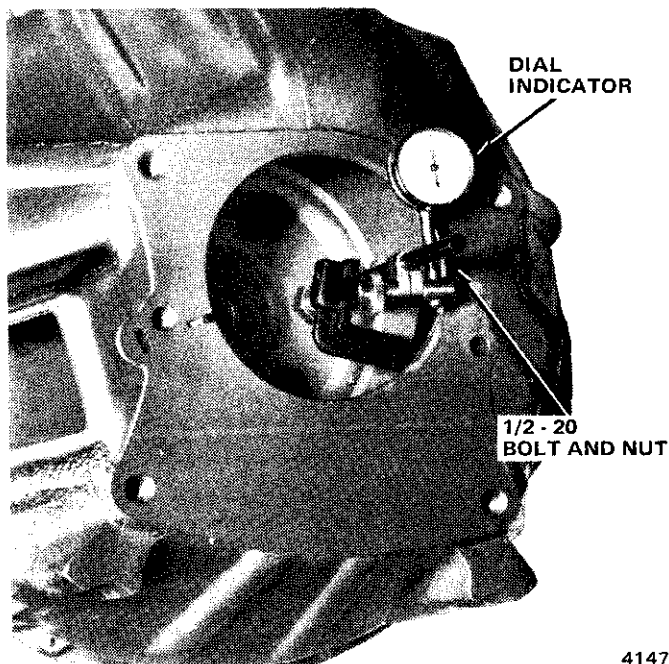

Fig. 2A-5 Mounting Dial Indicator
- (1) Remove transmission as outlined in Chapter 2B.
- (2) Remove clutch housing, clutch cover, and driven plate.
- (3) Remove one flywheel attaching bolt.
- (4) Obtain 1/2-20 X 9-inch bolt and 1/2-20 nut for use as dial indicator support.
- (5) Thread nut onto bolt until 10 or 12 bolt threads are exposed.
- (6) Thread bolt into crankshaft attaching bolt hole and tighten nut to secure bolt.
- (7) Install clutch housing on engine and tighten housing attaching bolts to specified torque. Refer to Specifications.
- (8) Mount dial indicator on 9-inch bolt. Indicator stylus must contact rear face of clutch housing approximately 1/8 inch from edge of bore (fig. 2A-5).